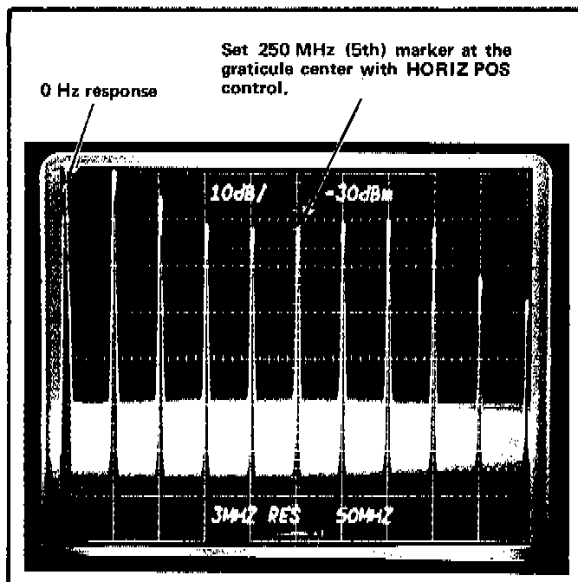

Fig. 2-3. Calibrating the sweep span.
c. Connect the CAL OUT signal to the RF INPUT, decrease the FREQ SPAN/DIV to 50 MHz and tune the 5th marker (250 MHz) to the center graticule line (see Fig. 2-3).
d. Calibrate the frequency span to 50 MHz/Div by adjusting the SWP CAL for 1 marker/division. It will be necessary to keep the 250 MHz marker centered with the COARSE FREQUENCY control as the sweep is calibrated. Final display should resemble that illustrated in Fig. 2-3.